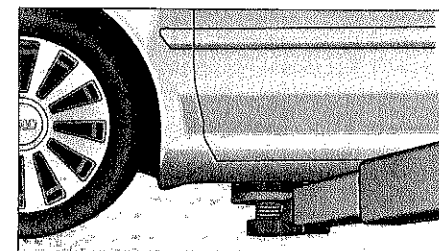
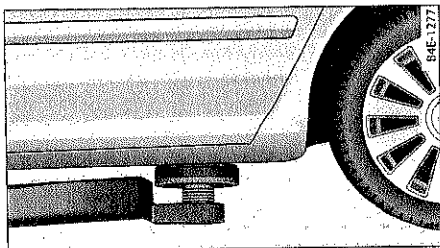

Fig. 304 Front lifting point
Fig. 305 Rear lifting point
- Locate lifting points ⇒ *page 369*, fig. 304 ⇒ fig. 305.
The lifting point is located on the floor pan reinforcement about at the same level as the jack mounting point ⇒ *page 369*, fig. 304. **Do not lift the vehicle at the vertical sill reinforcement.**
The lifting point is located on the vertical reinforcement of the lower sill for the on-board jack ⇒ fig. 305.
- Always lift the vehicle only at the special workshop hoist and floor jack lift points illustrated ⇒ *page 369*, fig. 304 and ⇒ fig. 305.